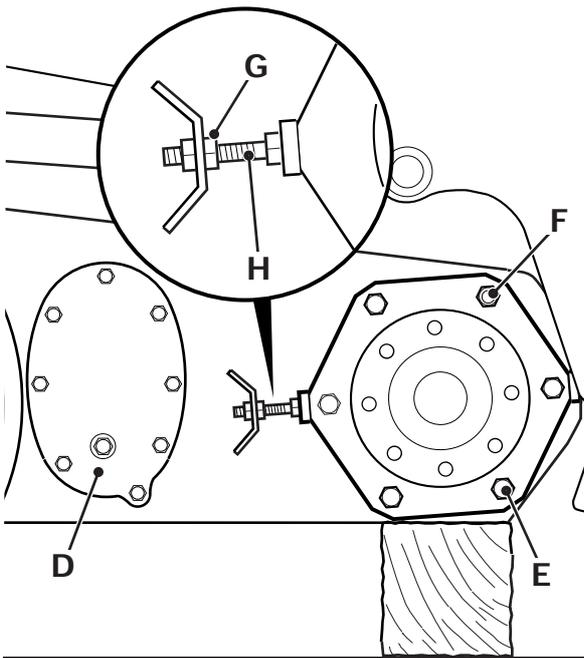

Fig 13.
- 2 Remove the seat and pump cover. Remove the chaincase access cover **D** → Fig 13. (□ F-16).